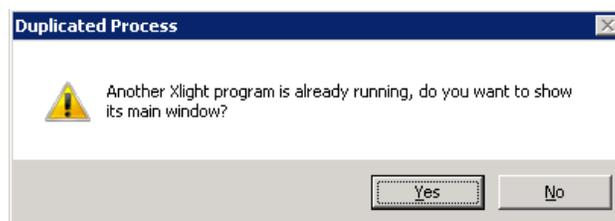

Figure 2-12: Duplicated Process Warning Window
- The *Duplicated Process* window shown in Figure 2-12 displays. Click **Yes** to proceed.